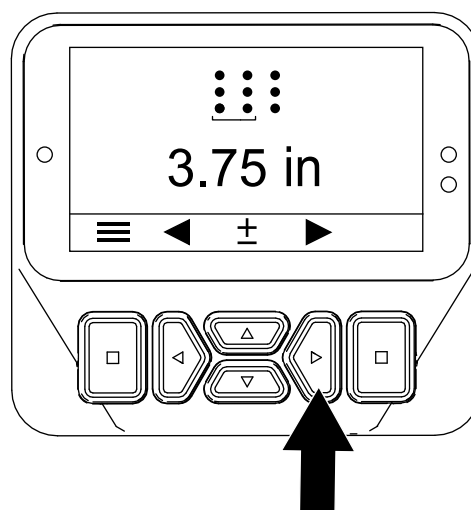

Figure 48
5. Press the right button to display the Setting the Hole Spacing screen (Figure 48).